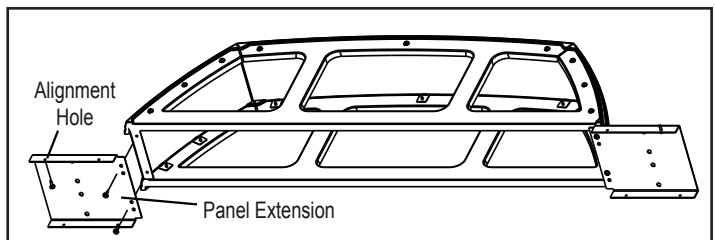

Figure 20.5
6. Attach the hearth support's panel extensions. **Figure 20.5**